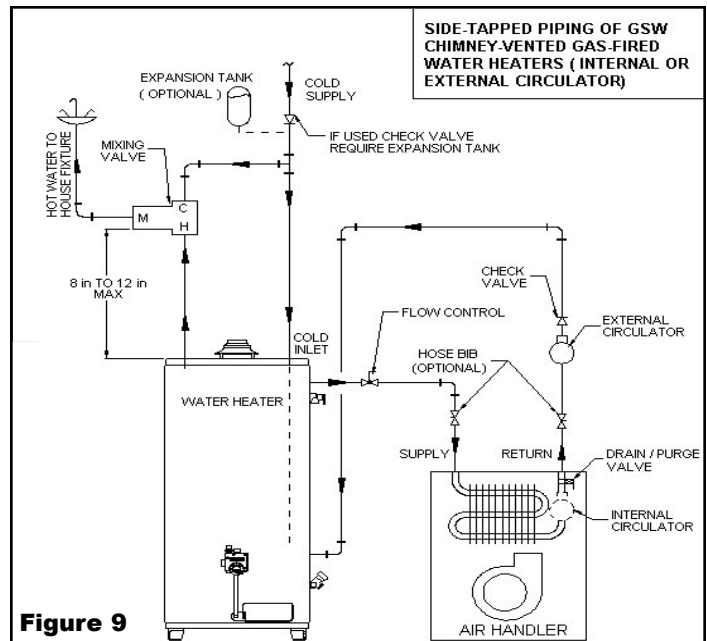

Figure 9
- A- A fan coil/air handler (figure 9).